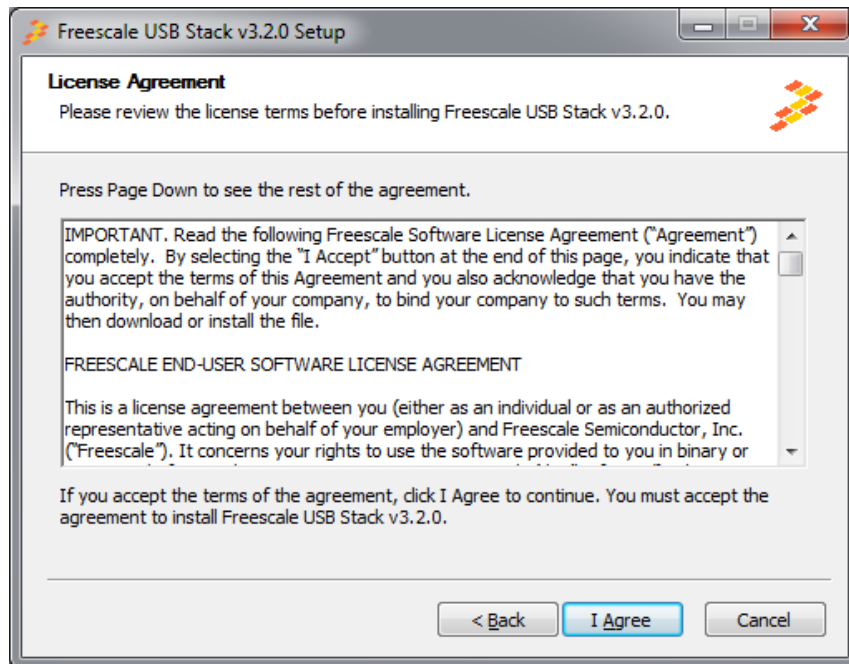

Figure A-2. Freescale USB Stack setup license agreement
2. In Figure A-2, click on the **I Agree** button to accept the license agreement.